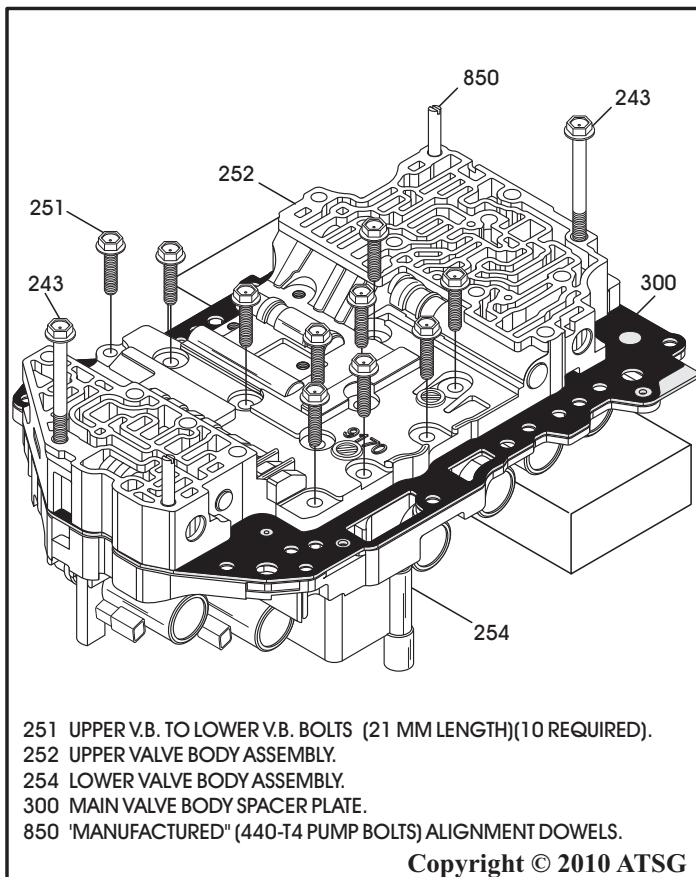

Figure 156
1. As you lower the upper valve body and spacer plate assembly into place, temporarily installed accumulator bolts will start to automatically start to move out, as shown in Figure 156.
22. With all of temporary alignment dowels still in place, hold upper valve body and spacer plate against the lower valve body, ensuring all small parts are in place, and then install ten retaining bolts, as shown in Figure 156.